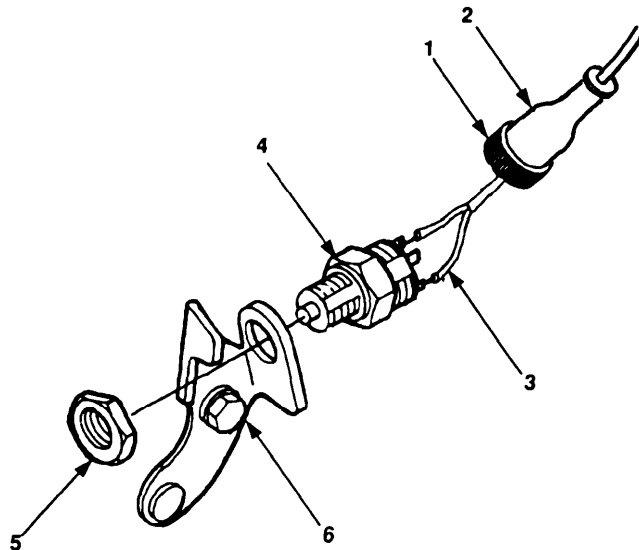

Figure 4-14. V-Belt Contact Switch Replacement.
- a. Loosen nut (figure 4-14, 1) securing boot (2), and slide up harness.
- b. Tag and disconnect wires (3) from V-belt contact switch (4).
- c. Remove nut (5) and V-belt contact switch (4) from bracket (6).
- a. Position V-belt contact switch (4) to bracket (6) and install nut (5), then tighten.